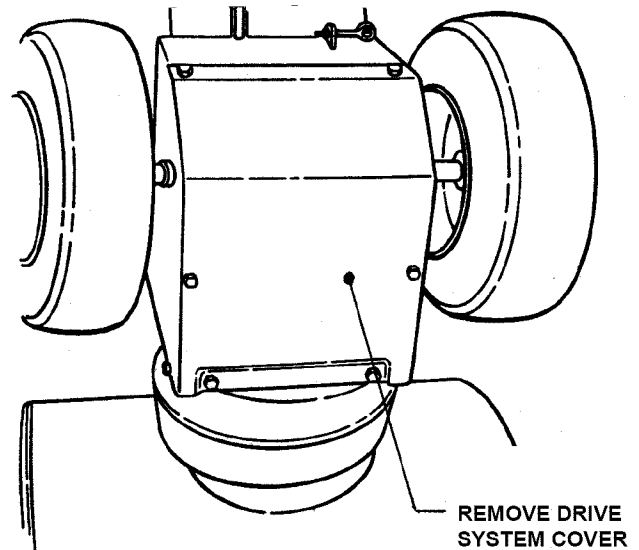

FIGURE 4.7
5. Tilt machine forward to gain access to drive system area. Secure machine in the tilted position to prevent tipping over. Remove drive system cover plate. See Figure 4.7.
1. Tilt machine forward to gain access to drive system area. Secure machine in the tilted position to prevent tipping over. Remove drive system cover plate. Refer to Figure 4.7.